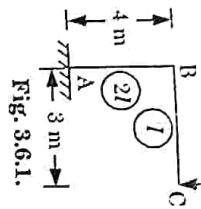

Fig. 3.6.1.
**Que 3.6.** Determine the vertical deflection at point C in the frame shown in Fig. 3.6.1. Given  $E = 200 \text{ kN/mm}^2$  and  $I = 30 \times 10^6 \text{ mm}^4$ .